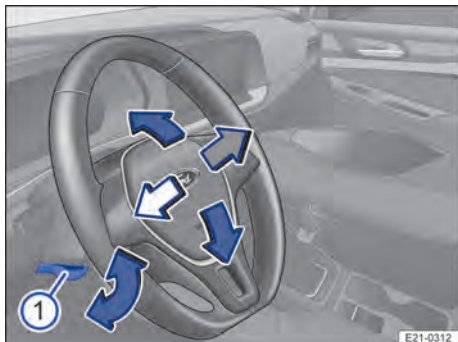

Fig. 56 Below the steering wheel in the steering column trim: lever for adjustment of the steering wheel position.
1. Push the lever down → Fig. 56 ①.
3. Push the lever → Fig. 56 ① up firmly until it is flush with the steering column trim → ⚠.